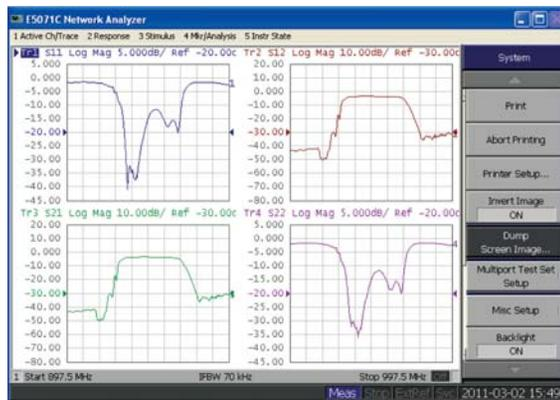

Figure 6. Measurement Result
k. Click **Done** to start measurement. (Figure 6)